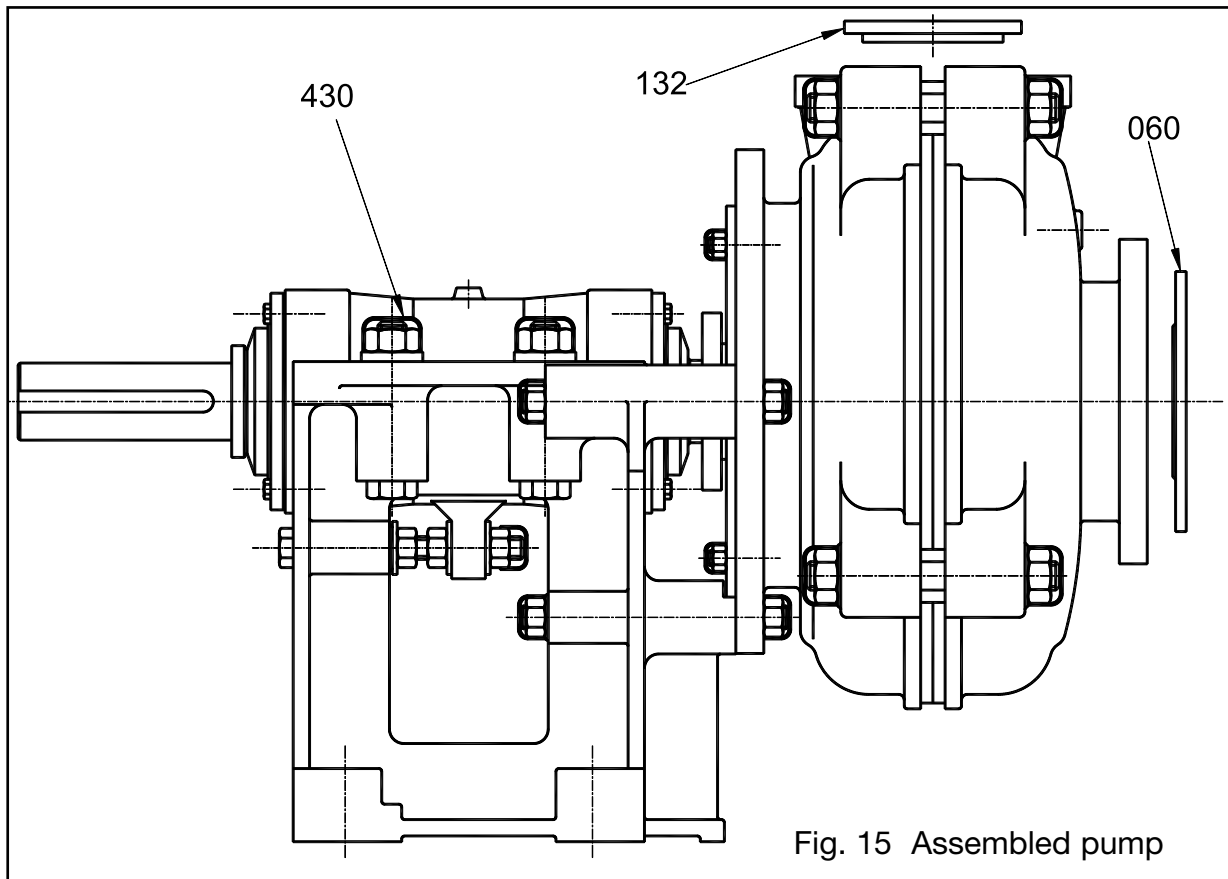

Fig. 15 Assembled pump
- Refer Fig 15
- (i) The INTAKE JOINT RING (060) and DISCHARGE JOINT RING (132) are supplied loose with pumps requiring these items. Fit Intake Joint Ring and Discharge Joint Ring as shown in Fig 15, using contact cement adhesive to provide support during fitting of intake and discharge pipework.
- (ii) Fit piping from Drip Tray in BASE (003), if fitted, to convey leakage from gland seal.
- (iii) Fit elastomer NUT COVERS (430) to all external nuts to prevent fouling of threads with slurry.